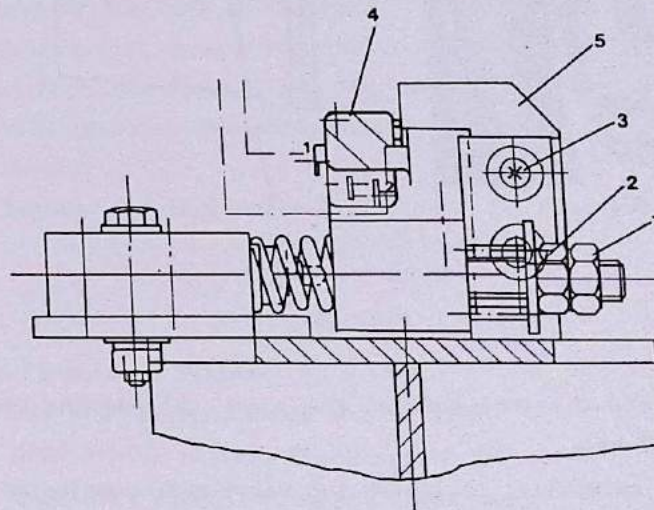

Fig. 606 Safety Backup Adjustment
- (5) Electrical Safety Backup Switch (Fig. 606)
- (b) Loosen two screws (3) and slide the pusher(s) against the microswitch (4) until the microswitch plunger is fully depressed.
- (c) Tighten screws (2).